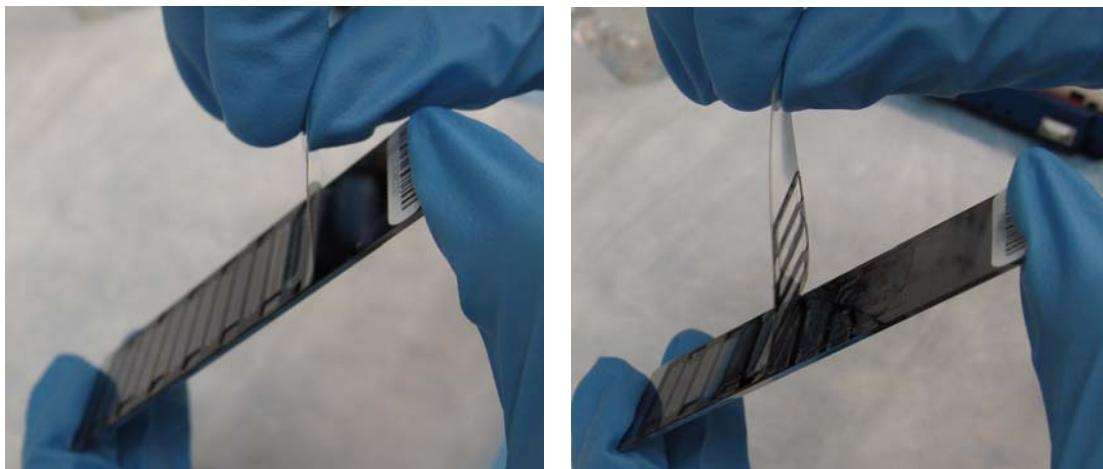

Figure 126 Removing the Coverseal
- b. Remove entire seal by pulling it off in a downward direction, starting with the barcode end (Figure 126).